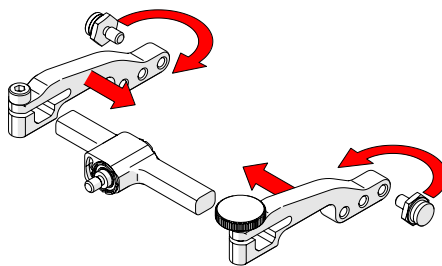

Fig. 61 - Attach arms and move buttons
4. Place the pivot buttons on the inside of the probe holder arms (Fig. 61) using a 3/8 in wrench (Fig. 20). Slide the arms onto the yoke and tighten the probe holder arm adjustment knob and the arm clamp screw.